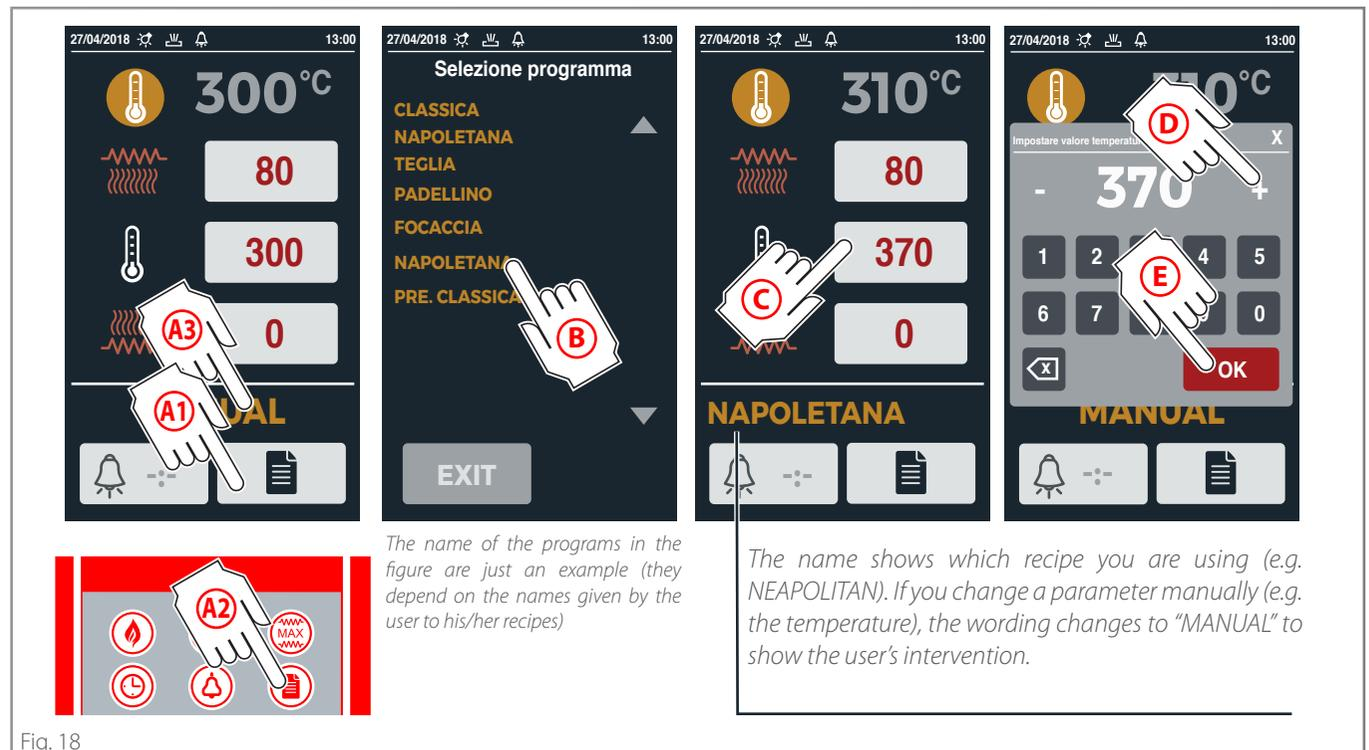

Fig. 18
- ▶ **Fig. 18** starting a **recipe (program)** already stored, previously saved by the user.